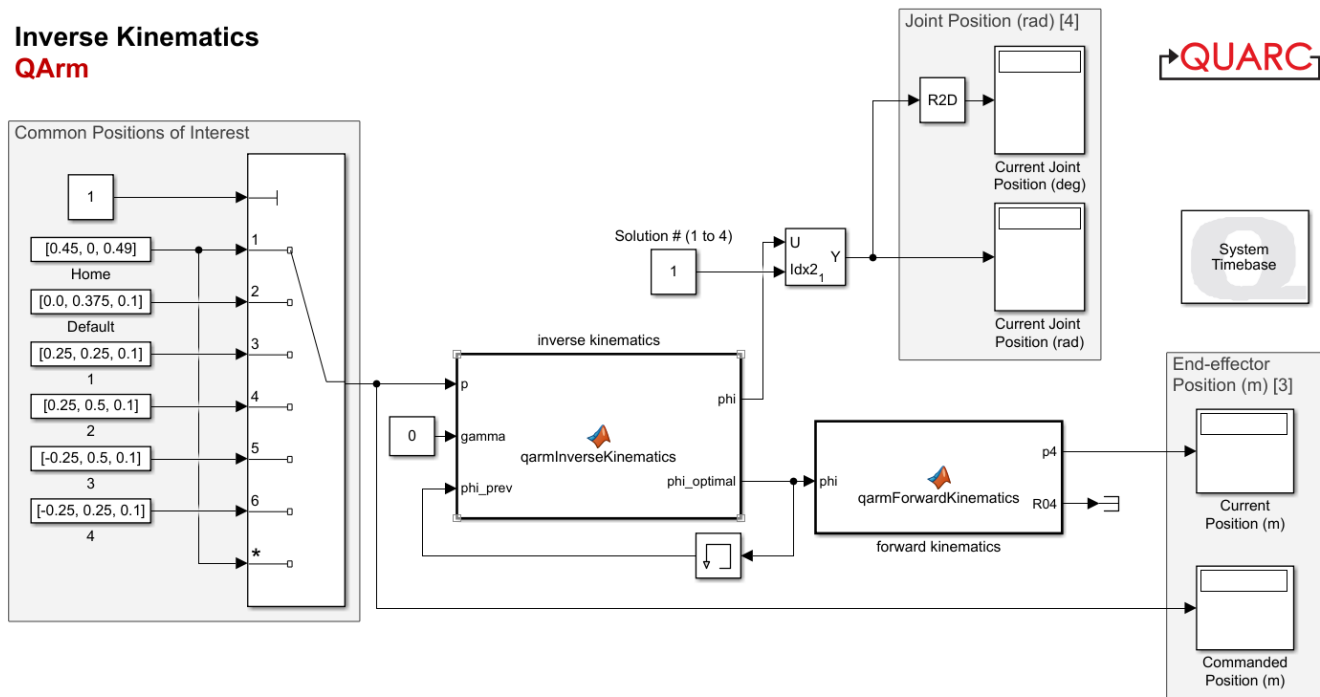

Figure 1: Simulink model that implements the QArm inverse kinematics
1. Open the Simulink model InverseKinematics.slx (Figure 1). You will use the model to implement the inverse kinematics of the Quanser QArm manipulator. When implemented correctly, the inverse kinematics calculate four sets of possible, but not always valid, static joint configurations for a given end-effector position.